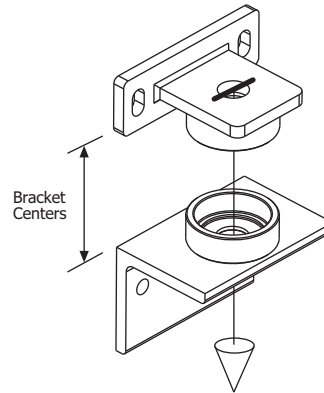

Fig. 3 Plumbing pivot mounting assemblies
- 2 Position lower mounting assembly on support structure using a "plumb bob" (not supplied) through pivot holes (fig.3).